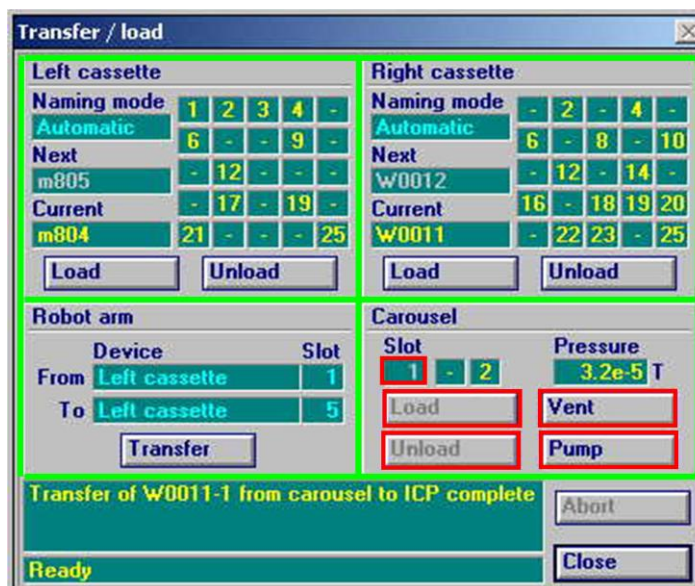

Fig. 4: The lower right 'quadrant' of the **Transfer/Load** window called 'Carousel' for manual loading of wafers.
4.1.2 Use the ‘quadrant’ at the lower right side (*Fig.4*) of the *Transfer/Load* window called ‘**Carousel**’ to load wafers: